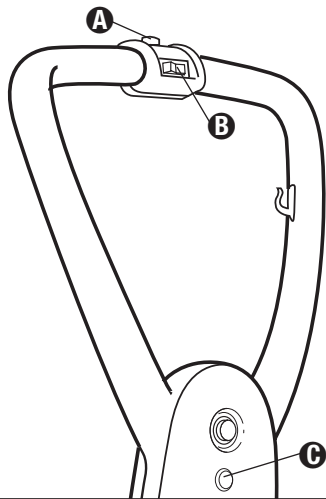

FIG. 4
Step 4: Push power switch **(C)** to turn on the extractor (Fig. 4).
Step 5: Push brush agitation switch **(B)** to turn on the brushes (Fig. 4).
Step 6: Push the handle foot release and recline handle to use position. Push shampoo/rinse button **(A)** and hold to apply solution and move the unit forward and then backward at a moderate pace two times. As the nozzle moves over the carpet, the cleaning solution is sprayed onto the carpet. At the same time the nozzle picks up the dirty water and places it in the recovery tank. It is important to move the unit in a steady motion. (Fig. 4)
- Étape 4 :** Pousser le bouton d'alimentation **(G)** pour mettre l'extracteur en service (Fig. 4).
- Étape 5 :** Pousser le bouton d'agitation des brosses **(B)** pour mettre les brosses en service (Fig. 4).
- Paso 4:** Presione el interruptor de corriente **(G)** para encender el extractor (Fig. 4).
- Paso 5:** Presione el interruptor del cepillo agitador **(B)** para encender los cepillos (Fig. 4).